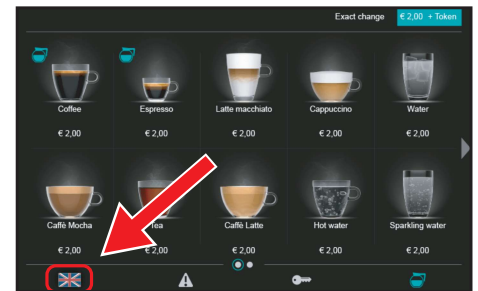

Figure 12.
3. You operate the machine using the touch screen. The main menu contains all possible product selections. You can change the language of the menu by pressing the 'flag' button on the bottom left and selecting another language. (See Figure 12)